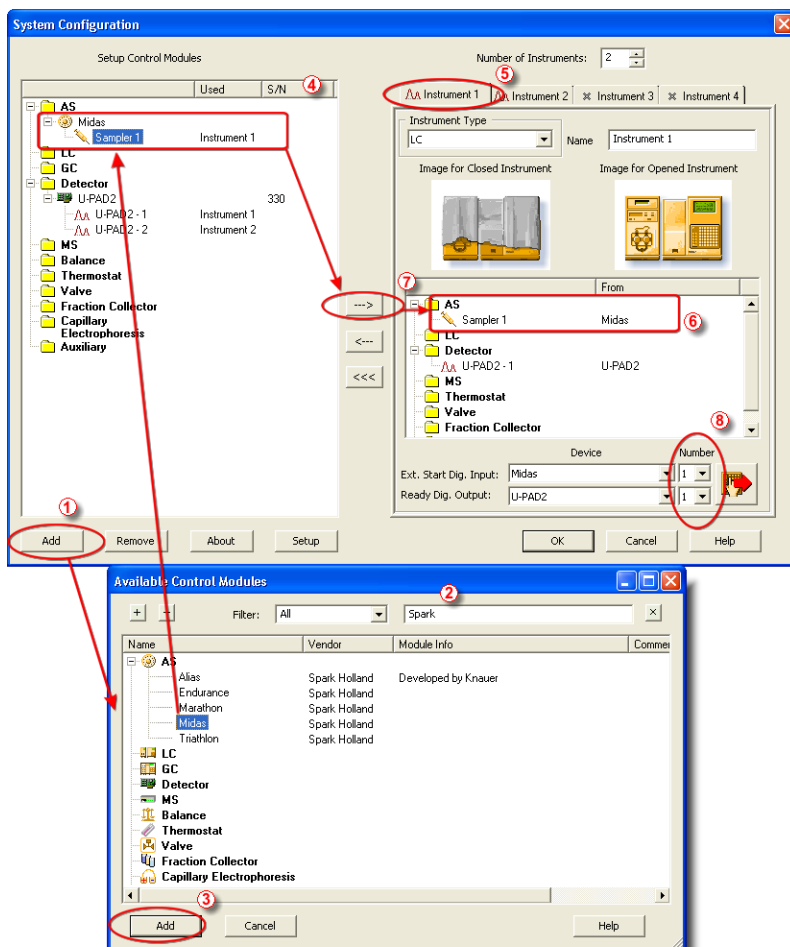

Fig 5: System Configuration
- Press the **Add** button ① (see Fig 5 on pg 6.) to invoke the **Available Control Modules** dialog.
- You can specify the searching filter ② to simplify the finding of the driver.
- Select the **Midas** sampler and press the **Add** ③ button.